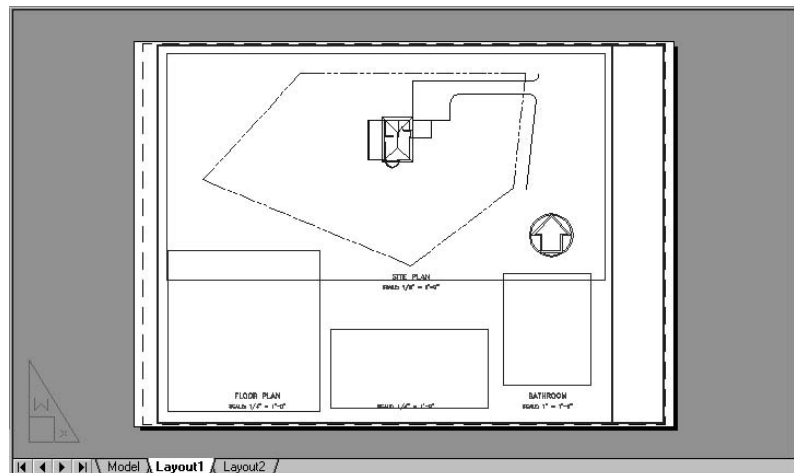

FIGURE 13.29: Layout1 with the smaller viewports turned off
3. In the Properties palette, be sure the Misc section is open, and then open the drop-down list next to On and click No. Close the Properties palette. Then press Esc to remove the grips. All selected viewports go blank, and all that is visible are their borders and the text on the layout (see Figure 13.29).